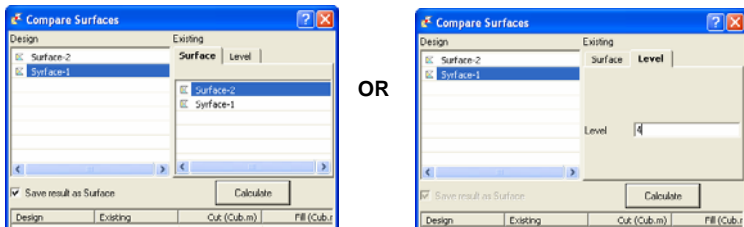

Figure 9-74. Select Surfaces or Surface and Horizontal Plane
2. Select the *Design* surface in the left column and the *Existing* surface or a horizontal plane set at the desired level in the right column (Figure 9-74).